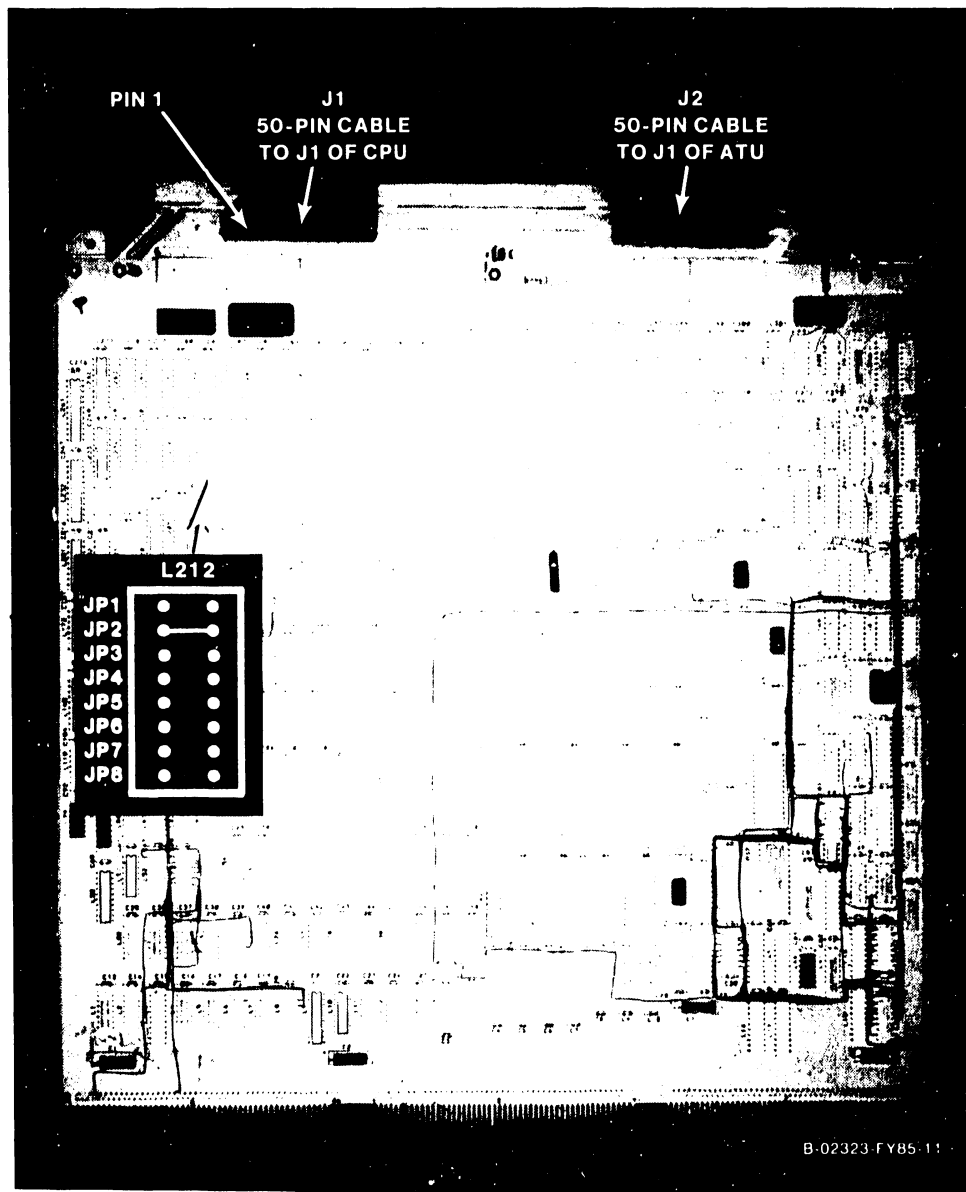

Figure 7-11. 210-9832 Address Generation Unit
1. Before removing the Address Generation Unit (AGU), figure 7-11, from backplane slot #3 disconnect the 50-pin cables from J1 and J2.
3. After checking the oscillator jumpers at L212 (figure 7-11), install the new AGU.